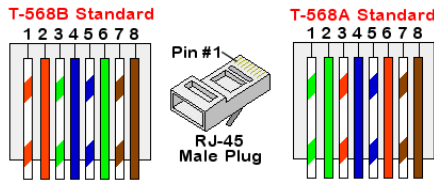

Figure 26: Standard cable wiring
- c. Insert the eight wires into an RJ45 connector, as described in *Figure 26*.
7. For the switch/router side, use a pre-terminated cable or use a crimper to prepare an RJ45 communication connector: Insert the eight wires into the RJ45 connector in the same order as above (*Figure 26*).